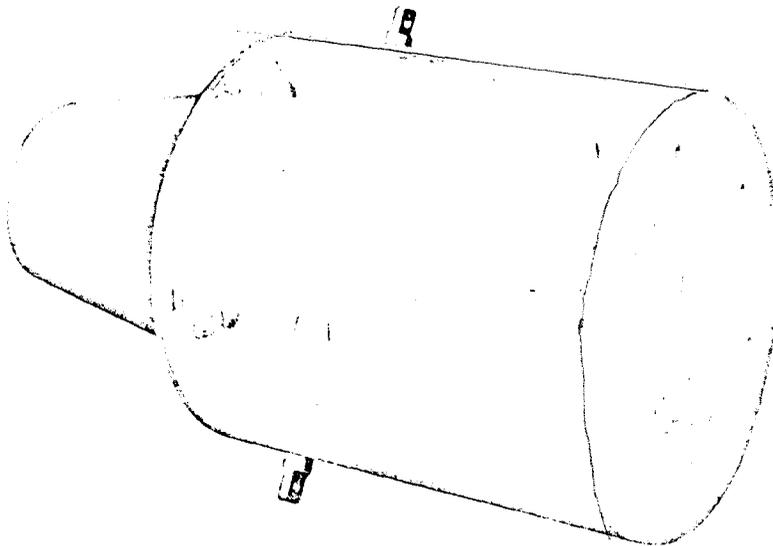
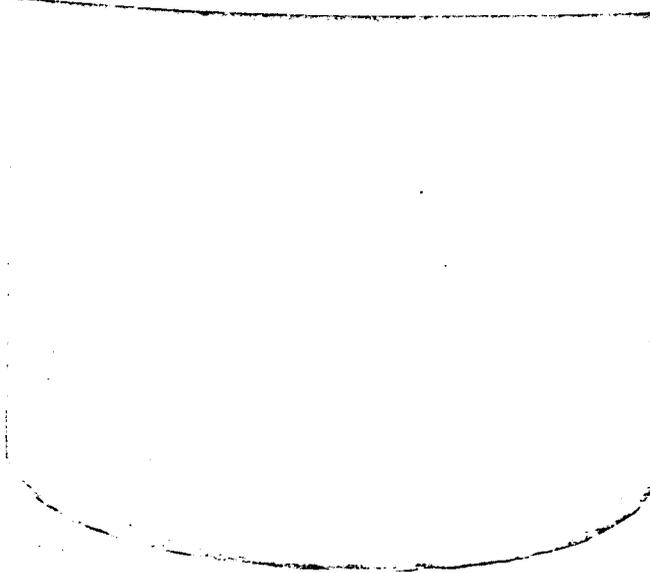

Fig. 1—Detection Unit
Fig. 2—Upper and Lower Shield Assembly
2.02 The detection unit (Fig. 1) is shock-mounted within a shield assembly (Fig. 2) which is shock-mounted above ground. The detection unit and shield assembly are designed to withstand repeated blast overpressures of 50 pounds per square inch. The shield also provides adequate insulation to prevent high temperatures from damaging the scintillation plastic in the detection unit. The scintillation plastic can withstand temperatures up to 60°C for extended periods; however, the temperature of the plastic must never exceed 70°C.